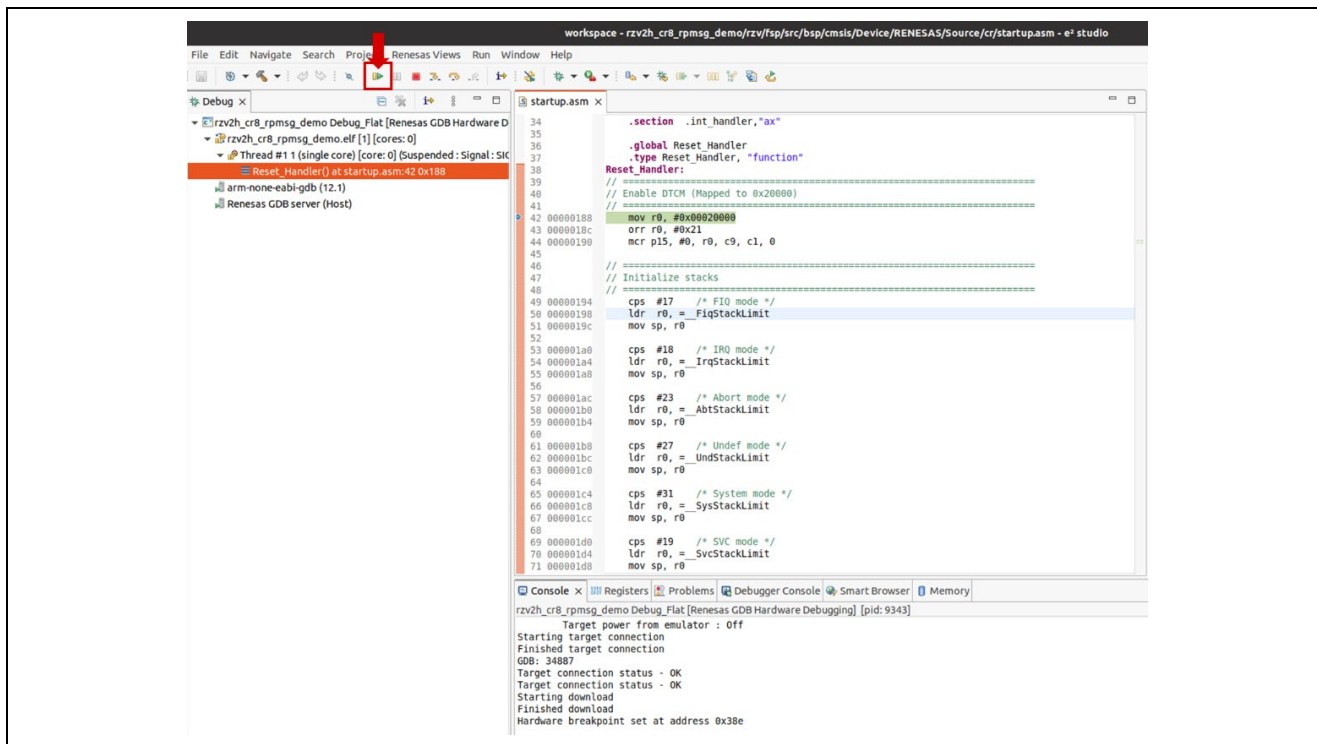

Figure 4-7. How to start to debug Sample Project (1)
3. When **Debug Perspective** is opened, Program Counter (PC) should be located at the top of **Entry_Function_S** and **Reset_Handler** for CM33 and CR8 sample project, respectively. Then, press the button shown in Figure 4-7.